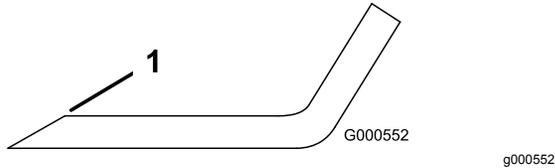

Figure 117
1. Use a file to sharpen the cutting edge at both ends of the blade (Figure 117).
Note: If the blade is not balanced, file some metal off the end of the sail area only (Figure 117).